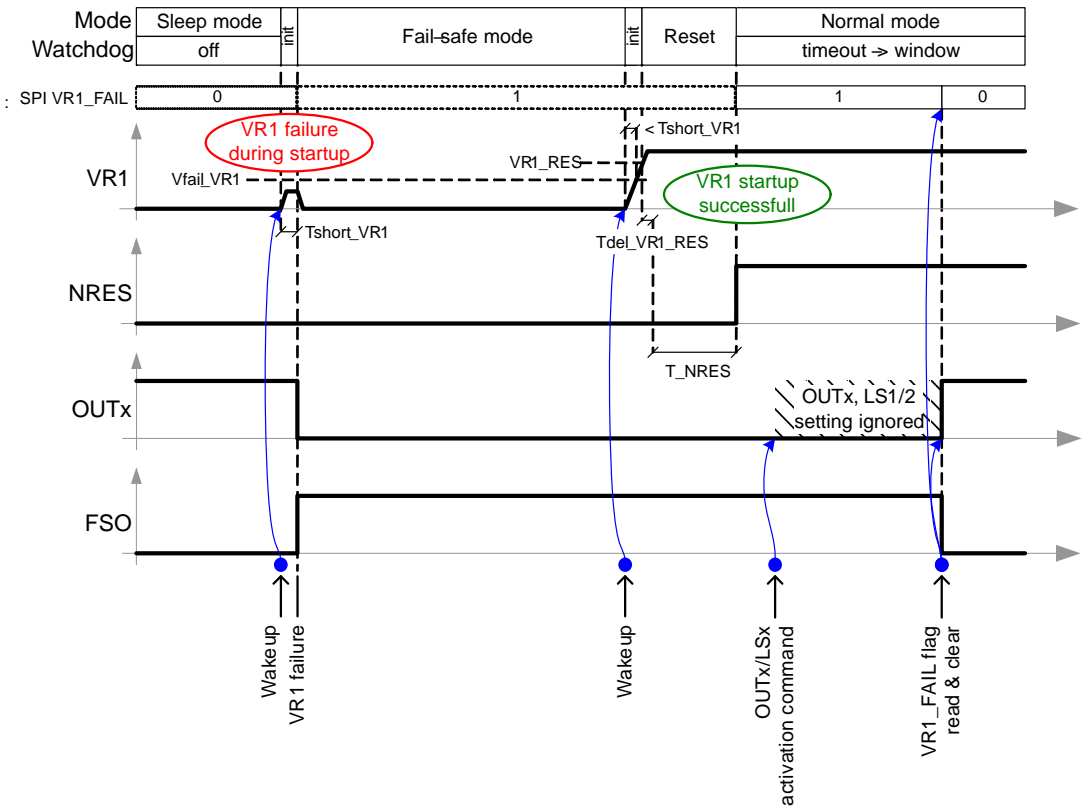

Figure 10. VR1 Monitoring – VR1 Failure during Startup
- VR1 Failure Comparator – during the VR1 start-up and operation, the VR1 voltage is continuously compared with *Vfail_VR1* level (typ. 2 V). During startup, if VR1 does not rise above *Vfail_VR1* level within *Tshort_VR1* (typ. 40 ms), it’s considered shorted to ground and the device is forced to the Fail-safe mode (see Figure 10). During the VR1 operation, any dip below *Vfail_VR1* level longer than *Tfail_VR1* (typ. 5 μ s) is considered as a failure – temporary excursions of VR1 under the failure threshold can be caused, for example, by EMC, and can lead to memory data inconsistencies inside the MCU. Both the failure during VR1 startup and the operation are latched in the “VR1_FAIL” SPI bit for subsequent software diagnostics.